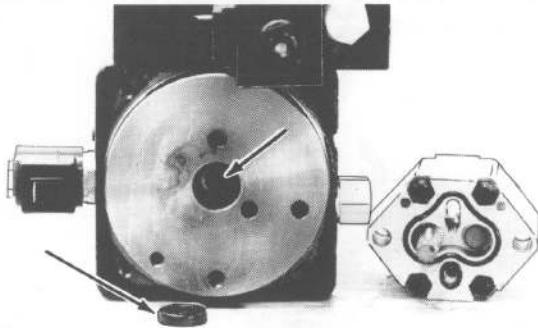

Figure 2-23
11. Install the coupler on the motor output shaft. See Figure 2-23.